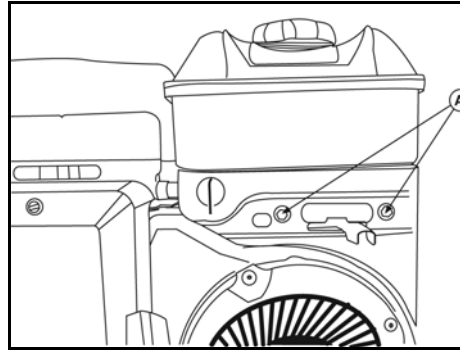

Figure 4
3. Remove screws (A, Figure 4) and the control panel/ trim plate.